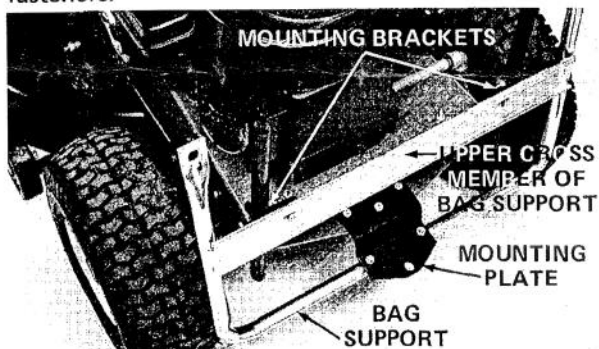

Figure 1
1. Loosely secure mounting brackets to rear stand bars with (2) capscrews (1½" lg.) and locknuts. Position brackets so long ends are to the rear (Fig. 1).
2. Loosely secure center mounting hole of mounting plate to hitch with capscrew (1" lg.), washer (11/32" I.D.) and locknut, positioning washer under hitch. Secure remaining holes with (2) capscrews (5/8" lg.) and locknuts (Fig. 1).
3. Loosely secure bottom of bag support to underside of mounting plate with (2) capscrews (1½" lg.) and locknuts (Fig. 1).
4. Secure upper cross member of bag support to mounting brackets with (2) capscrews (1" lg.), washers (11/32" I.D.) and locknuts. Tighten all fasteners.